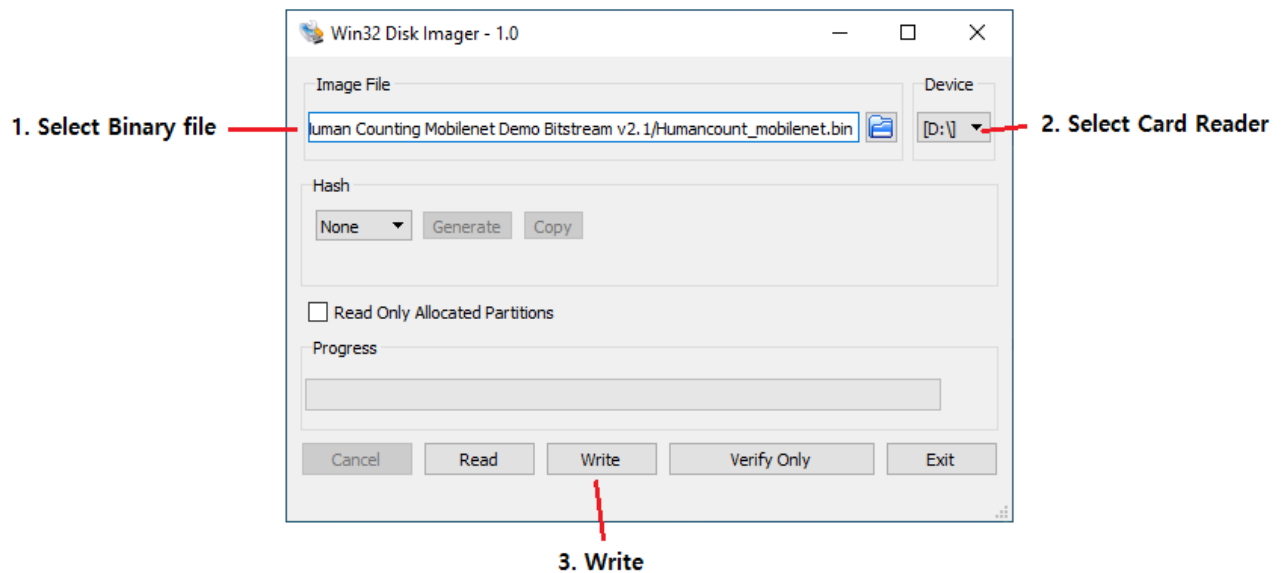

Figure 4.9 Win32 Disk Imager
- In Win32 Disk Imager, select the **Image File** (*Humancount_mobilenet.bin*) and **Card Reader** as shown in Figure 4.9